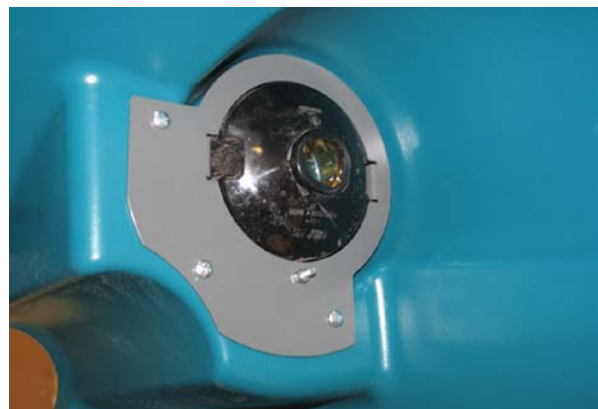

FIG. 4
11. Use three pan screws (3) to install each headlight assembly into the hopper cover (1). (Fig. 4)